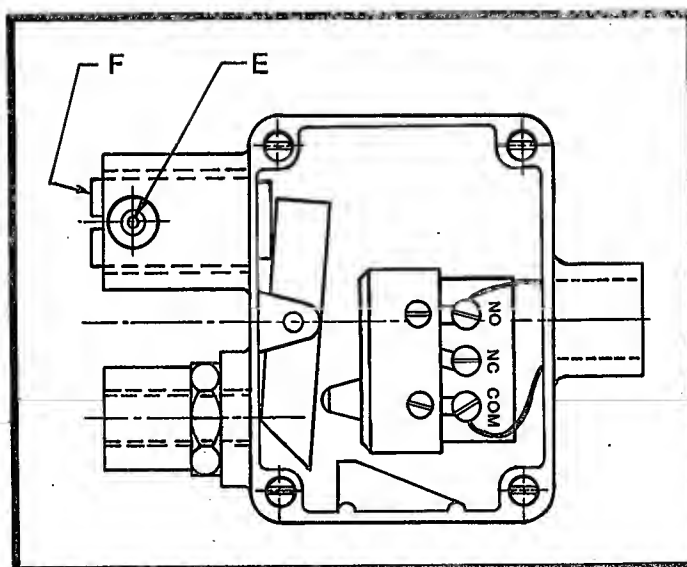

FIGURE 125
- B. Loosen lock screw "E" (Figure 125) and turn adjusting screw "F" clockwise about two turns.